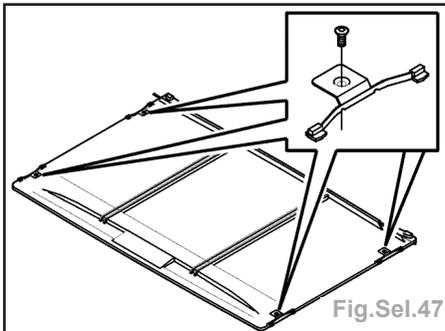

Fig.Sel.47
- Comprimer le ressort (Fig.Sel.47).